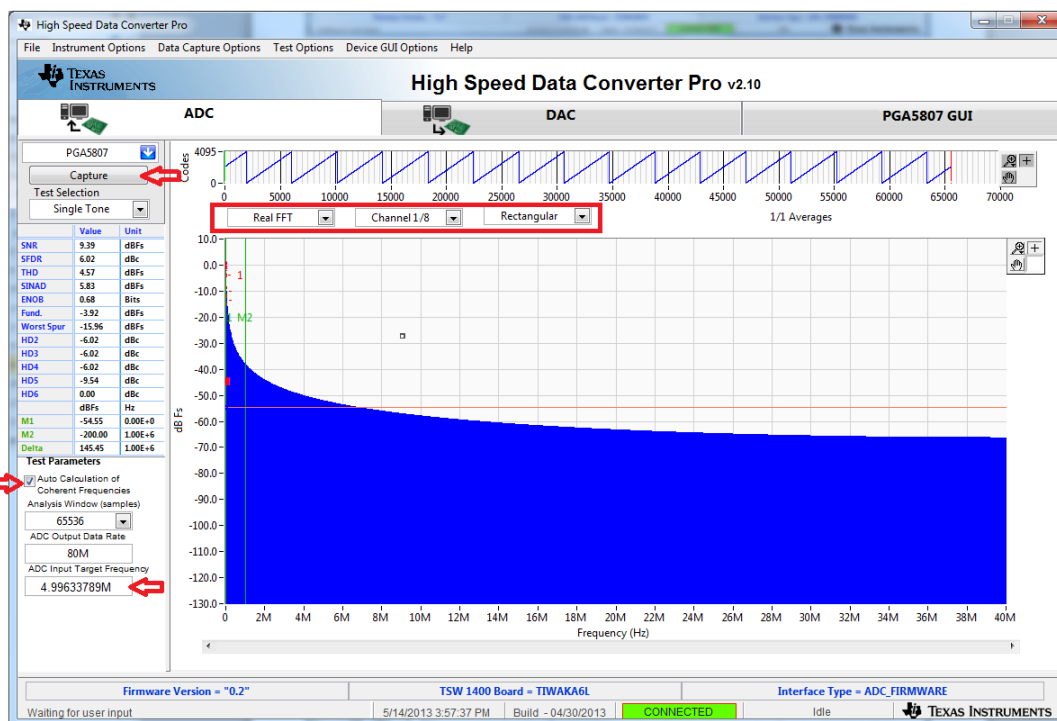

Figure 41. HSDCpro GUI Setup
3. Click on the ADC tab and perform the following steps as illustrated in Figure 41.